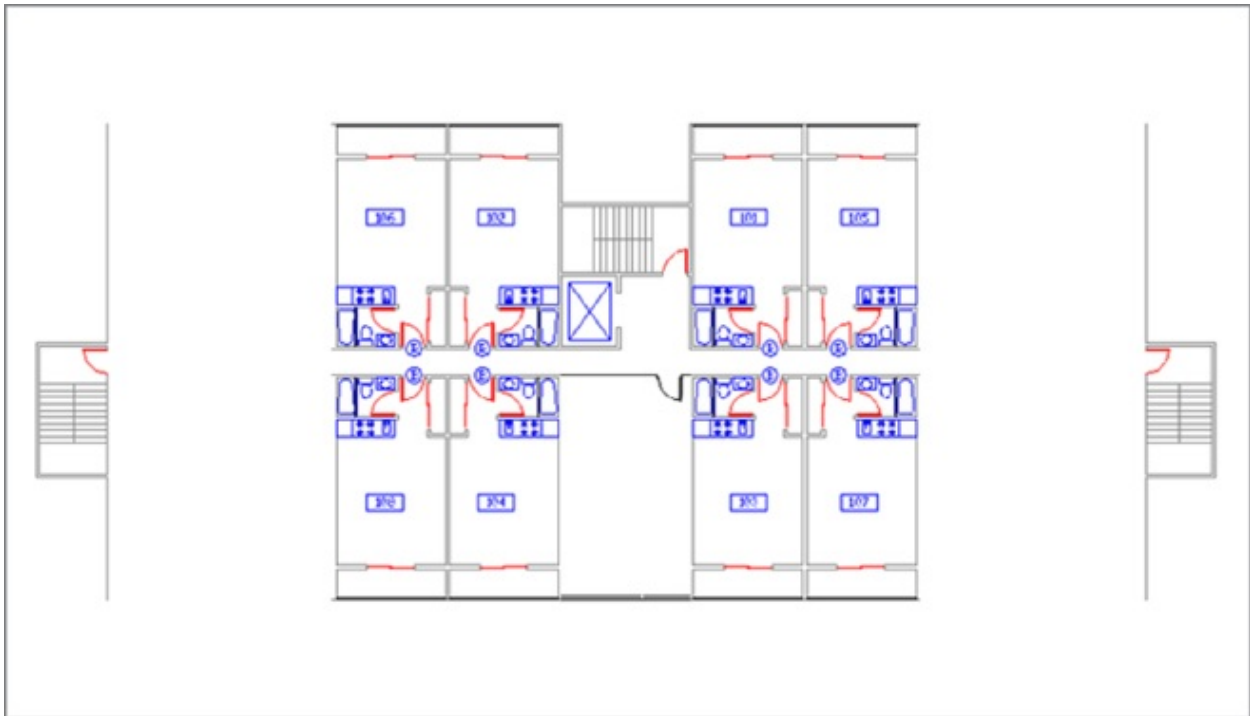

FIGURE 14.8 The Common.dwg file with the revised unit plan
6. At the Insertion point: prompt, press the Esc key. You see the new unit plan in place of the old one (see Figure 14.8).